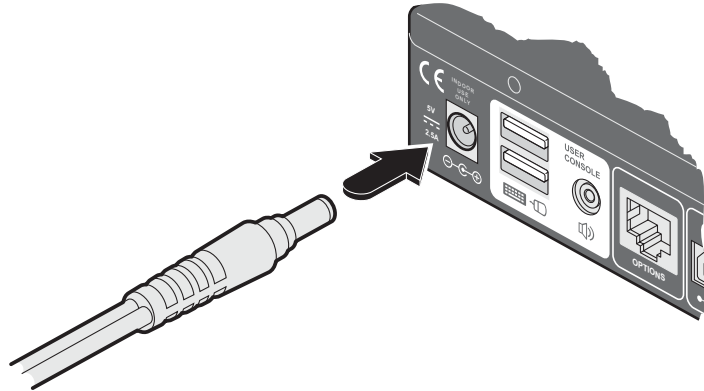

Figure 3-5. Attaching the power adapter lead to the power input socket.
1. Attach the output lead from the power adapter to the 5V socket on the rear panel of the unit. See Figure 3-5.